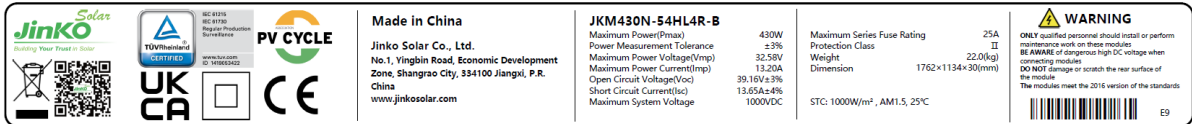

Figure 1. Nameplate example.
1. Nameplate (Figure 1): each module has a nameplate, which indicates the module type, the main electrical and safety specification parameters, etc.